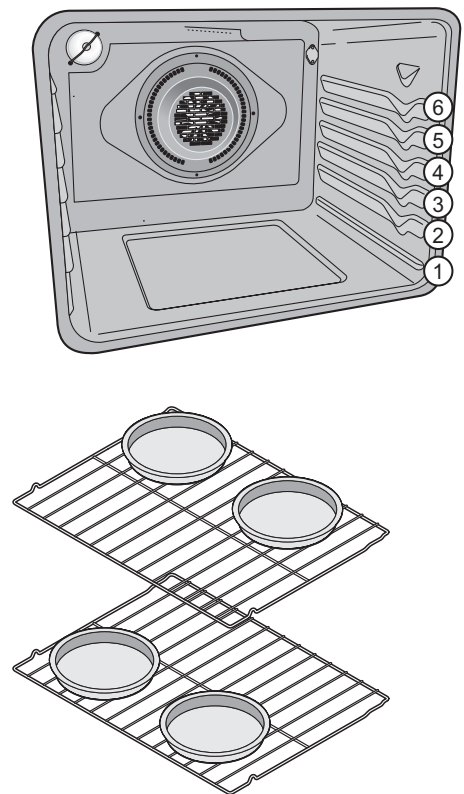

Figure 13: Pan positions for two-rack baking
- For best results when baking layer cakes using two oven racks, place racks in positions 3 and 5 and place pans as shown in Figure 13.